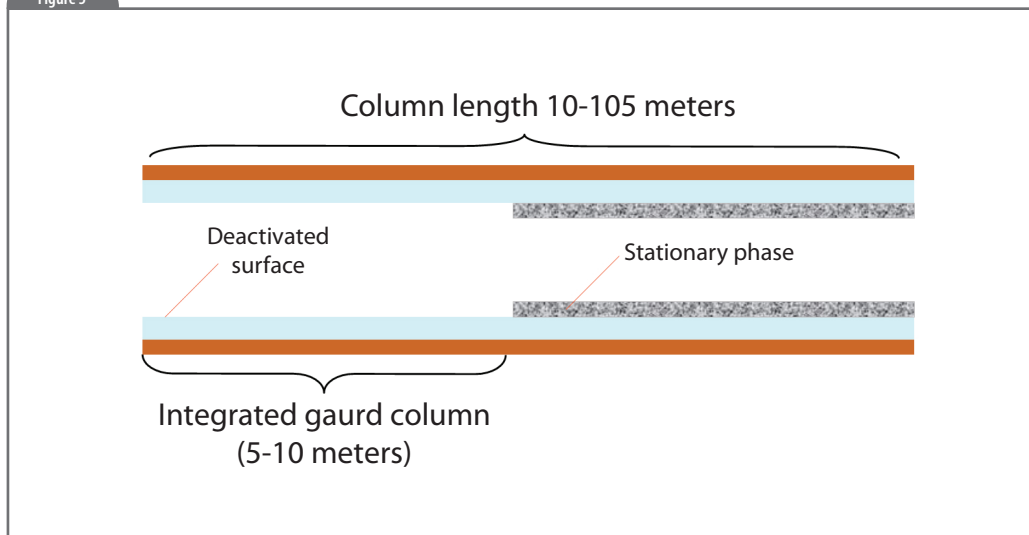

Figure 5: Making the guard column part of the analytical column.
- applying integrated guard columns, (see Figure 5), where the guard column is an integrated part of the whole capillary.